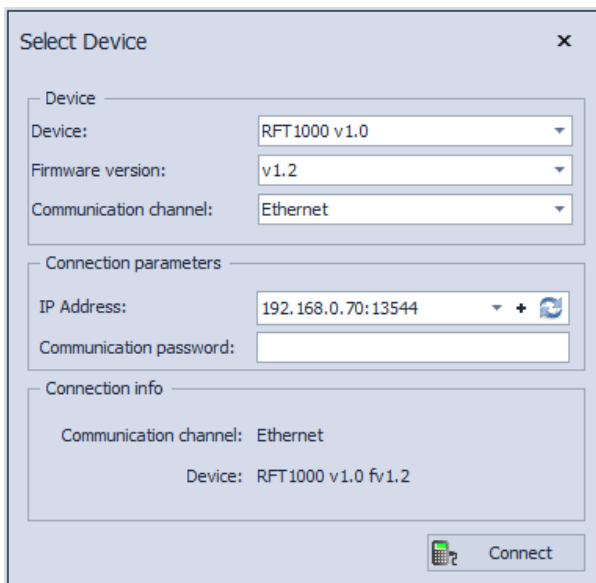
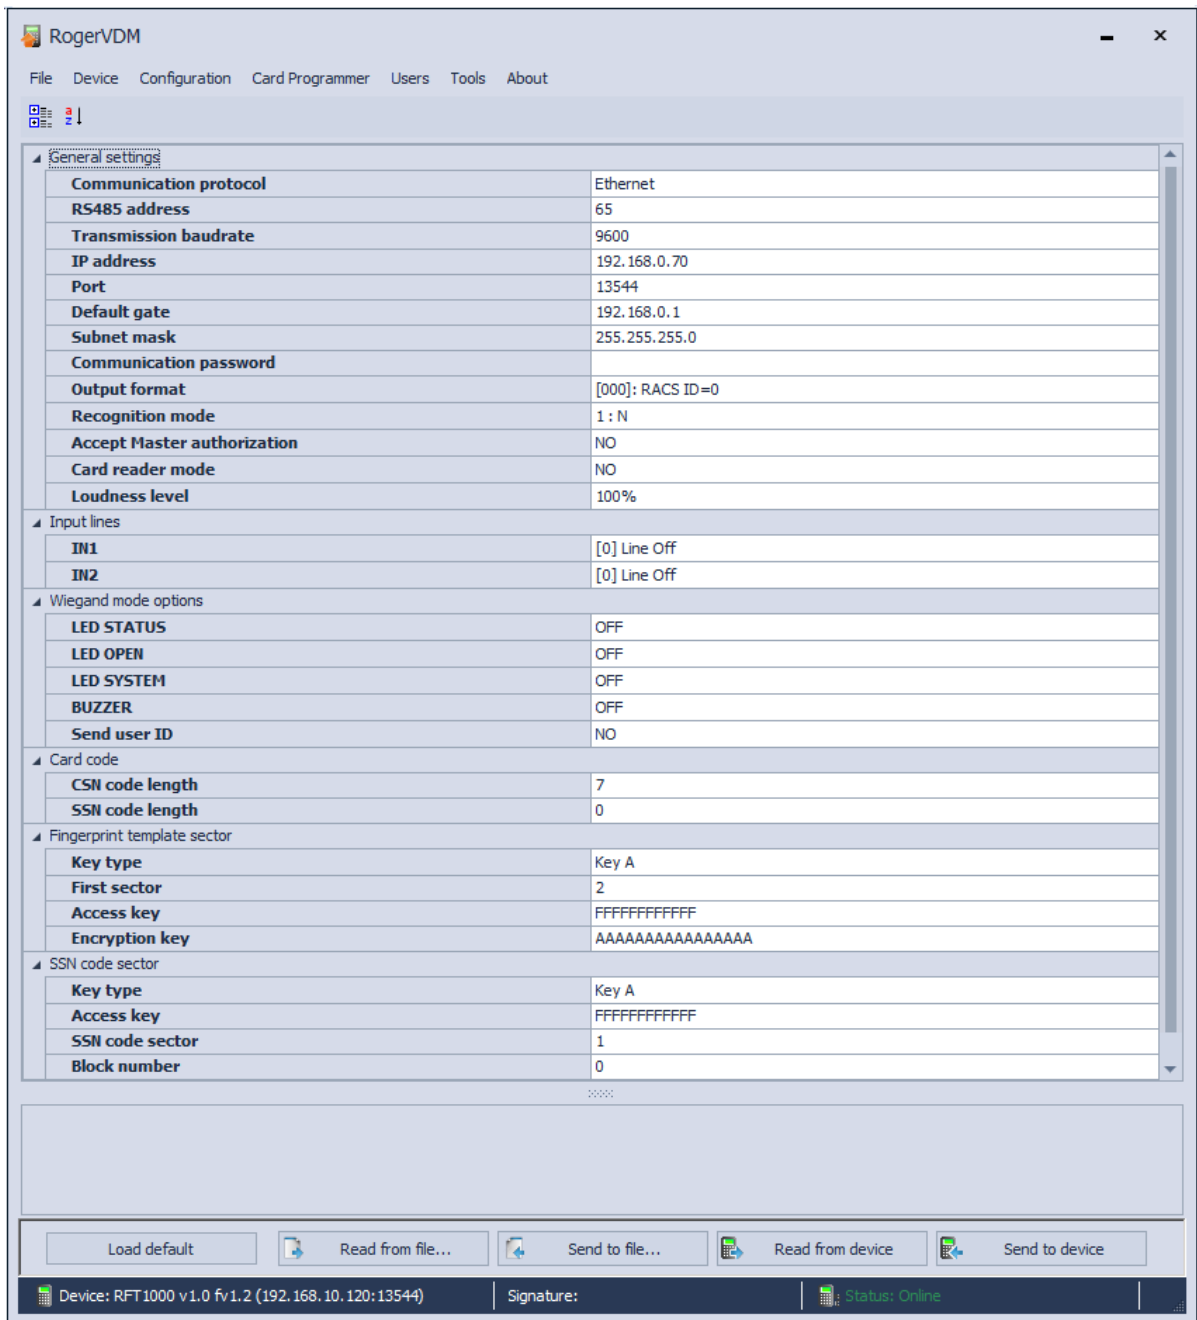
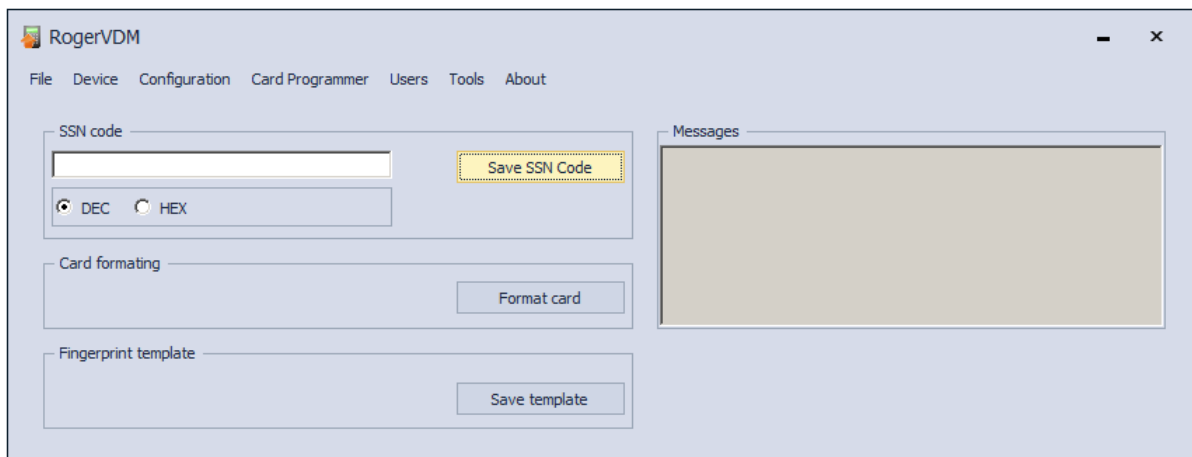

Fig. 6 Connection with RogerVDM software
Fig. 7 Configuration window in RogerVDM software
Fig. 9 Card programmer window
4. In the newly opened window (see fig.6) select **RFT1000 v1.0** device, firmware version **1.2** and then **Ethernet** communication channel.
After establishing the connection it is possible to modify communication parameters both for Ethernet and RS485 communication in the newly opened window, which can be accessed by selecting the option **Configuration** in the top menu. In the area **General settings** (see fig. 7) enter your settings and then upload the configuration to the reader by means of **Send to device** button.
Additionally according to table 3, in the area **Wiegand mode options** (see fig. 7) it is possible to configure the reaction of LED indicators and buzzer for certain actions performed by the reader.
RFT1000 reader can operate in two recognition modes, which are selected by means of the option **Recognition mode** in the **General settings** area of the window opened with the option **Configuration** in RogerVDM software (see fig. 7).
In 1:N mode, list of users is recorded in RFT1000 memory. Each user should have his ID number, card number, and 1 to 10 fingerprint templates. The identification of user in 1:N mode consists in reading his fingerprint or card number by RFT1000. In case of successful recognition, user card number or user ID number is send to master device by means of Wiegand interface. If user ID number is to be sent instead of his card number then the option **Send user ID** must be activated in the area **Wiegand mode options** (see fig. 7). In such case, master device must be properly configured in order to identify such ID numbers.
If the option **Accept Master authorization** in **General settings area** (see fig. 7) is activated then users with Master attribute are not required to scan their fingerprints and they can use their cards for successful identification.
After selection of 1:1 mode, user enrolment consists in selection of **Add** button in **Users** area and entering his ID number, name and card number. Card number can be entered manually or read by means of built-in MIFARE reader when **Read** button is selected. In the next step it is necessary to open the window for card programming by means of the option **Card Programmer** in the top menu of RogerVDM software (see fig. 9). In the newly opened window, MIFARE card can be formatted (erased) by means of the button **Format card** and then fingerprint template can be recorded in card's memory by means of the button **Save template**. After selection of **Save template** button Fingerprint saving wizard is started and it is required to proceed according to displayed messages. The operation can be repeated and successive fingerprint templates can be recorded until card memory is full. In the last step of the wizard the parameter **User with Master attribute** can be selected and users with such attribute are not obliged to scan their fingerprints for all RFT1000 readers with **Accept authorization master** option in **General settings area** (see fig. 7) activated. For such user, card number is sufficient for his identification. It is also possible to define sectors in MIFARE Classic memory cards, where fingerprint templates are to be recorded. Related options are available in the configuration window in the area **Fingerprint template sector** (see fig. 7):
User identification by configured RFT1000 reader depends on selected recognition mode (see section 4.4), input with function **[5]: Card Reader Mode** (see section 4.3) and option **Card reader mode** (see fig. 7). Input **[5]** is used for dynamic switching of user identification method in such way that it depends on input state. More information on application of the input **[5]** is given in table 4 below. The option **Card Reader Mode** is applicable only for 1:N recognition mode and it enables permanent activation of card reader in RFT1000. When this option is selected then user can identify by means of card or fingerprint template as needed.
MIFARE Classic and MIFARE Ultralight cards have their read-only serial numbers called CSN and memory, where administrator defined number called SSN can be stored. Optional SSN code provides additional security as it can be saved in administrator defined sector and it can be protected with access code against unauthorized reading. RogerVDM software enables defining of SSN code and recording it to any available sector of MIFARE card memory. RFT1000 reader can identify particular card (user) by means of CSN code, SSN code or combination of both but the total number cannot exceed 11 bytes. Options related to reading of CSN and SSN codes are available in **Card code** area of reader configuration window (see fig. 7)
SSN code as opposite to CSN code of MIFARE card can be defined by administrator. SSN Code as well as its sector in memory and method for recording can be indicated by administrator. SSN code can be defined and recorded by means of RogerVDM options, which are available in the area **SSN code** in the **Card programmer** window (see fig. 9). After selection of **Save SSN code** button it is necessary to hold the card in vicinity of RFT1000 reader. The code can be entered in decimal or hexadecimal format. Location and recording method can be defined by means of options, which are available in the area **SSN code sector** (see fig. 7):
The option **Send to device...** on reader configuration window (see fig. 7) enables exporting of RFT settings excluding users data base, while the option **Send configuration to file** which is available after selection of **File** option in the top menu of RogerVDM software enables exporting of RFT1000 full configuration including users data base. Following options are used respectively for reading configuration: **Read from device** (see fig. 7) and **Read configuration from file**, which is available by selection of File option in the top menu of RogerVDM software.
The communication with RFT1000 reader both in case of Ethernet and RS485 port can be encrypted with AES128 CBC standard. By default, encryption is conducted with empty communication password. Administrator can define his own communication password (max. 16 digits) in reader configuration window in the field **Communication password** (see fig. 7). Such password must be then entered when establishing connection with the reader by means of RogerVDM (see fig. 6).